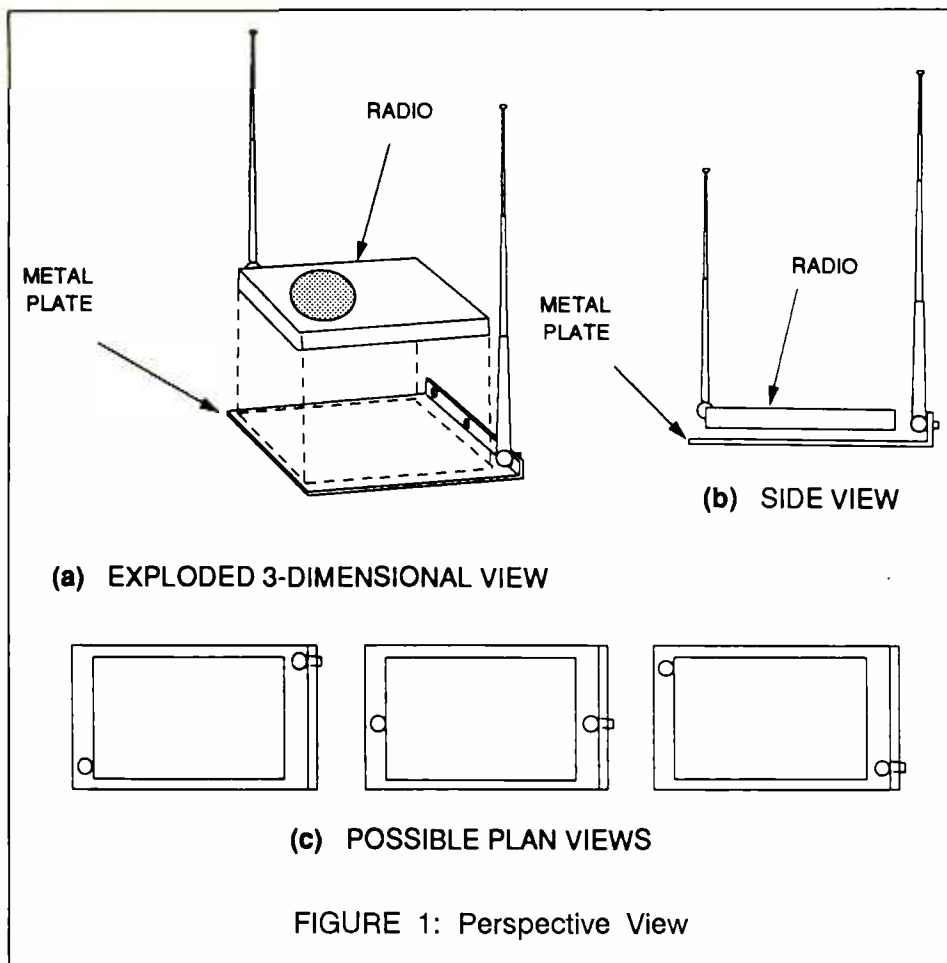

FIGURE 1: Perspective View
2. The radio is placed on the plate in the orientation shown in Figure 1. Its weight and that of the plate itself will usually stabilize the whip. If the radio has a ground terminal, it should be connected to the plate. If not, connection can usually be made to the outside of sockets into which recorder jacks are plugged. If the ground connection is omitted, performance will be only slightly degraded.